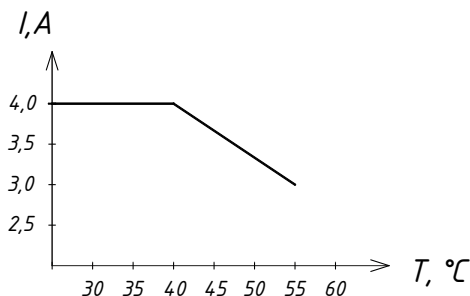

Fig.7. Dependency max. current from ambient temperature
Rated current	4 (3) A (see fig.7)
Ambient operating temperature air	-25...55 °C (see fig.7)